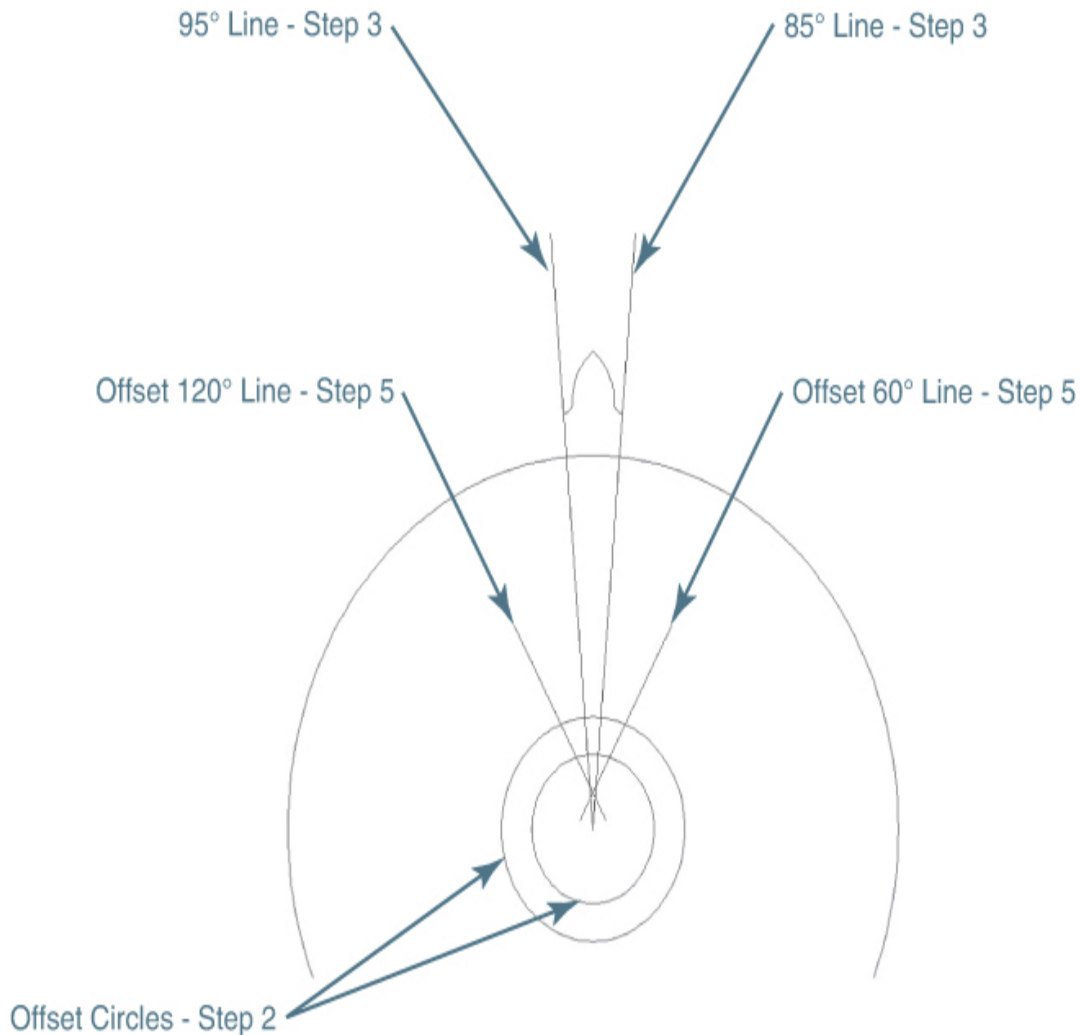

Figure 8-23
- 5 Start the **OFFSET** command, set the **Erase** option to **Yes** so the original lines are erased, and set the offset distance to **.25**. Offset the two short lines. Offset the left-hand line to the right, and the right-hand line to the left. Your drawing should look like Figure 8-23.